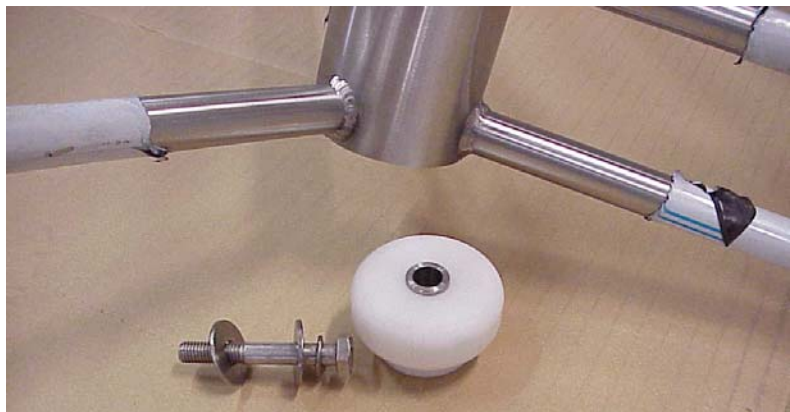

Fig. 8
- Mount lower bearing (see fig. 8). Using screws M10 x 70. Grease them before.